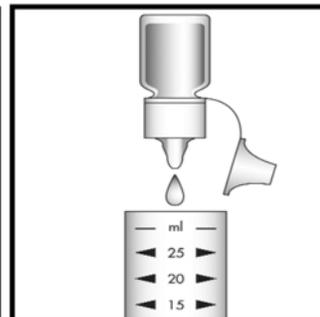

Figure 2
2. Add 2 drops of A-1900 Activator Solution (Figure 2). Stir briefly to mix the contents of the sample cup.